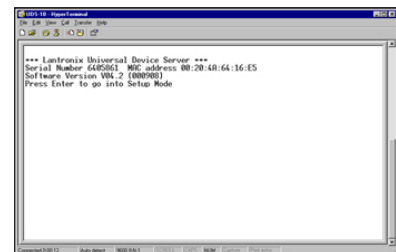

Figure 2: UDS-1100 HyperTerminal Dialog Box
4. To enter Setup Mode, press and hold the x key while powering up the UDS-1100. Release this key within one second of the prompt ***** Lantronix Universal Device Server ***** displays on the monitor. The prompt appears in the UDS-1100 HyperTerminal dialog box, as shown in **Figure 2**.